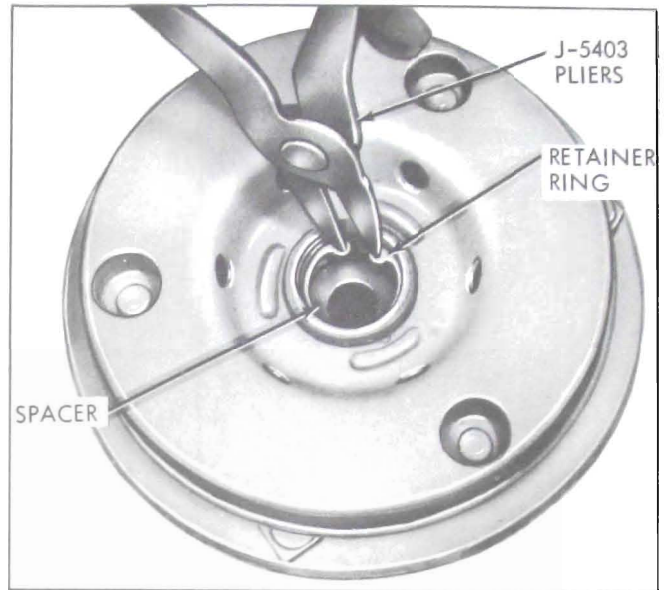

Figure 11-77—Removing Drive Plate Retainer Ring
4. Remove drive plate assembly retainer ring, using J-5403, No. 21 Truarc pliers. See Figure 11-77. Remove spacer from inside hub of drive plate.